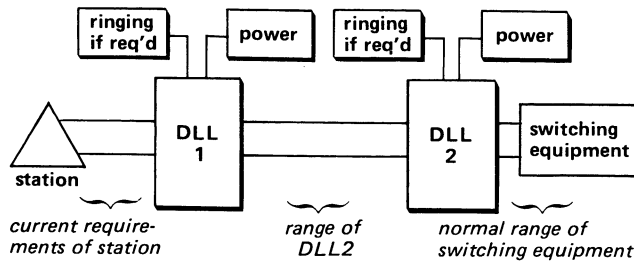

figure 4. Tandem DLL range limits
2.07 When the 7001(A) is operated in tandem with other DLL's (see figure 4), the maximum distance from the station to the nearest (first) DLL is determined by the current requirements of the station. The maximum distance from the first DLL to the next (second) DLL is determined by the station-side range of the second DLL, and so on. The maximum distance from the last DLL to the switching equipment depends upon the range of the switching equipment.